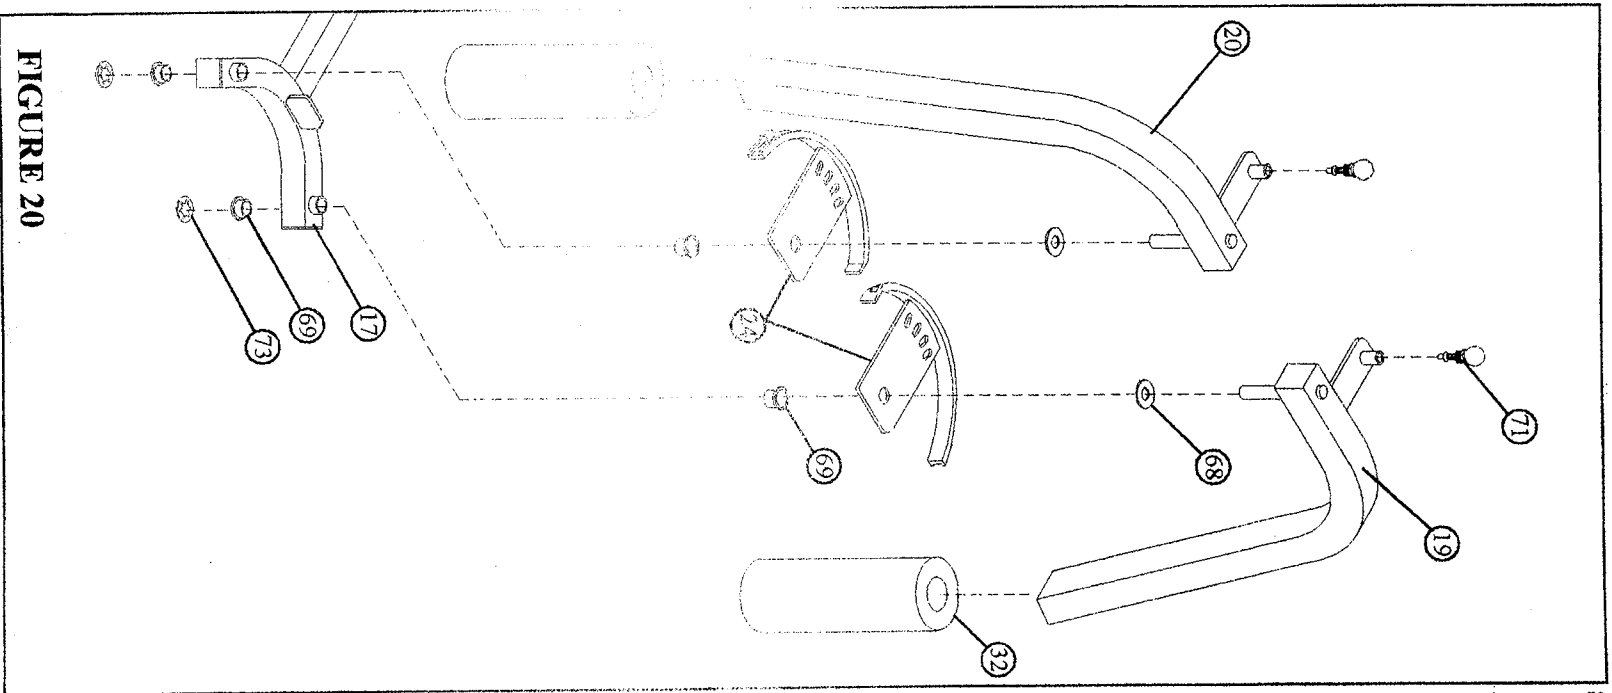

FIGURE 20
- Assemble two 3/4" THRUST WASHERS (68) and two PEC CAMS (24) to the LEFT (20) & RIGHT (19) PEC ARMS, as shown on FIGURE 20.
- Insert four 3/4" FLANGE BEARINGS (69) into the bushings of the BEARING HOUSING (17).
- Insert the LEFT (20) & RIGHT (19) PEC ARMS through the 3/4" FLANGE BEARINGS (69) in the BEARING HOUSING (17) on their respective side as shown, and secure them in place with two 3/4" STARLOCK COLLARS (73).
- Slide two PEC DEC ROLLER PADS (32) onto the LEFT (20) & RIGHT (19) PEC ARMS until the ROLLER PAD (32) is flush with the bottom of the pec arms.